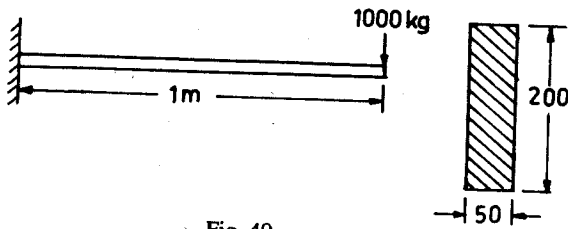

Fig. 49
95. The longitudinal shearing stress induced in the beam shown in Fig. 49 is equal to